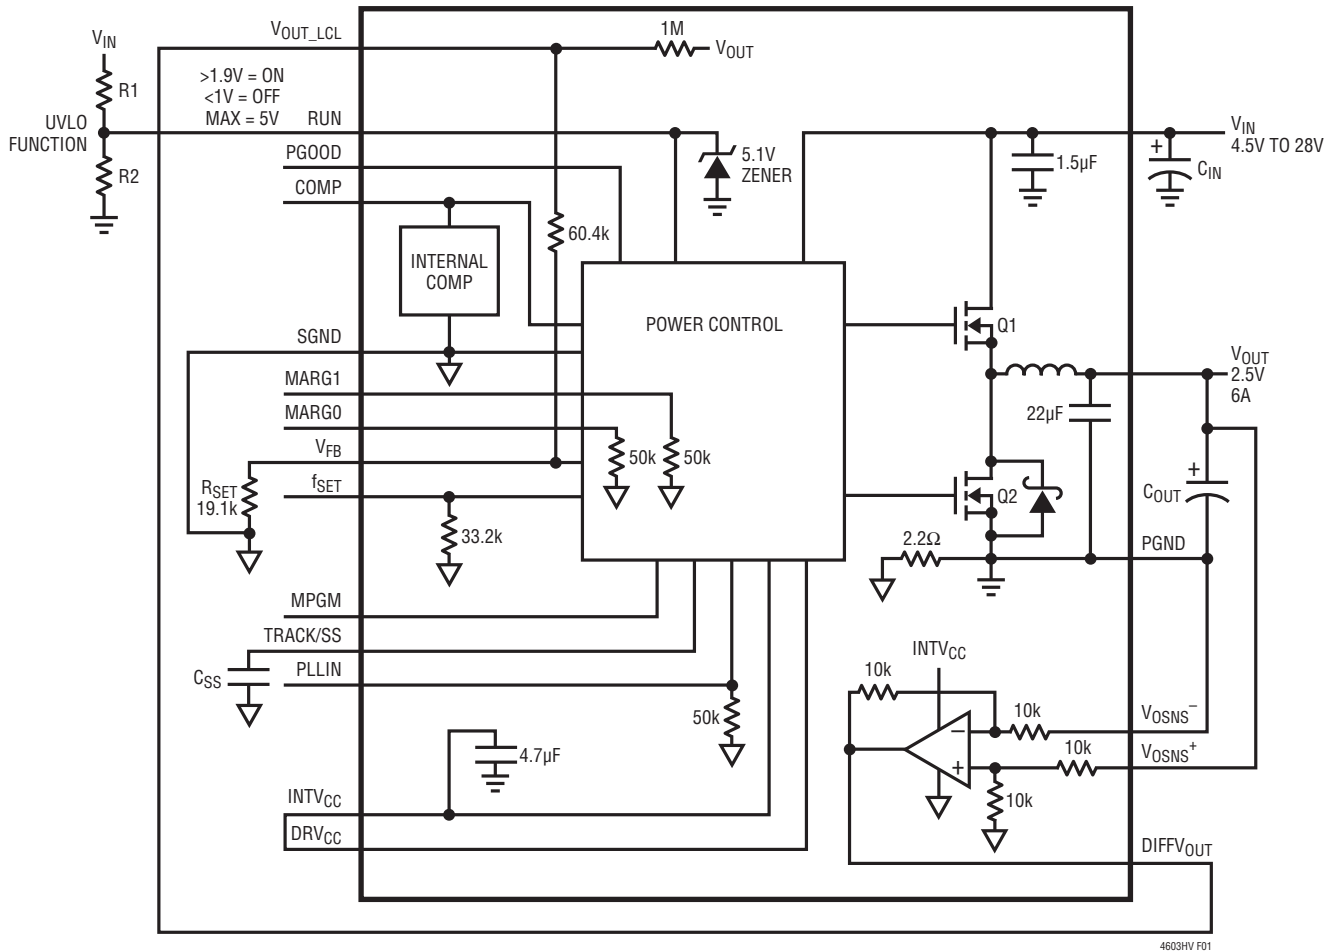

Figure 1. Simplified LTM4603HV Block Diagram
**RUN (Pin A10):** Run Control Pin. A voltage above 1.9V will turn on the module, and when below 1V, will turn off the module. A programmable UVLO function can be accomplished by connecting to a resistor divider from VIN to ground. See Figure 1. This pin has a 5.1V Zener to ground. Maximum pin voltage is 5V. Limit current into the RUN pin to less than 1mA.
TA = 25°C. Use Figure 1 configuration.
See the Simplified Block Diagram (Figure 1).